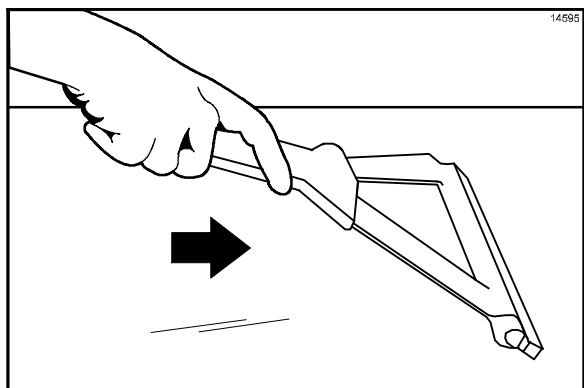

Figure 34
- Using the wiper squeegee, push the grease at the rear of the lower grill plate into the grease can. **Do not** use the grill scraper for this step. (See Figure 34.)